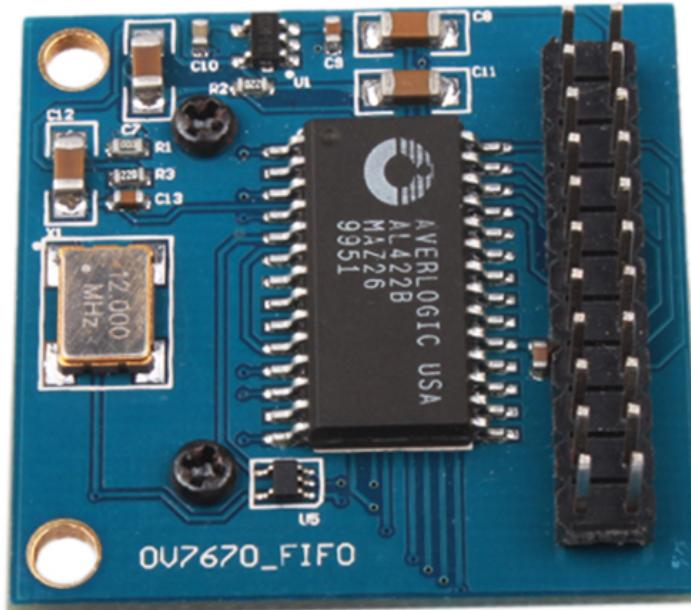

Figure 8.4: The back of the OV7670 FIFO camera module
*Figure 8.4* shows the OV7670 camera module with FIFO. This module has an AL422B IC that uses FIFO to enhance video processing. You can use this module to get better video processing. The OV7670 camera module works with a resolution of 640 x 480: